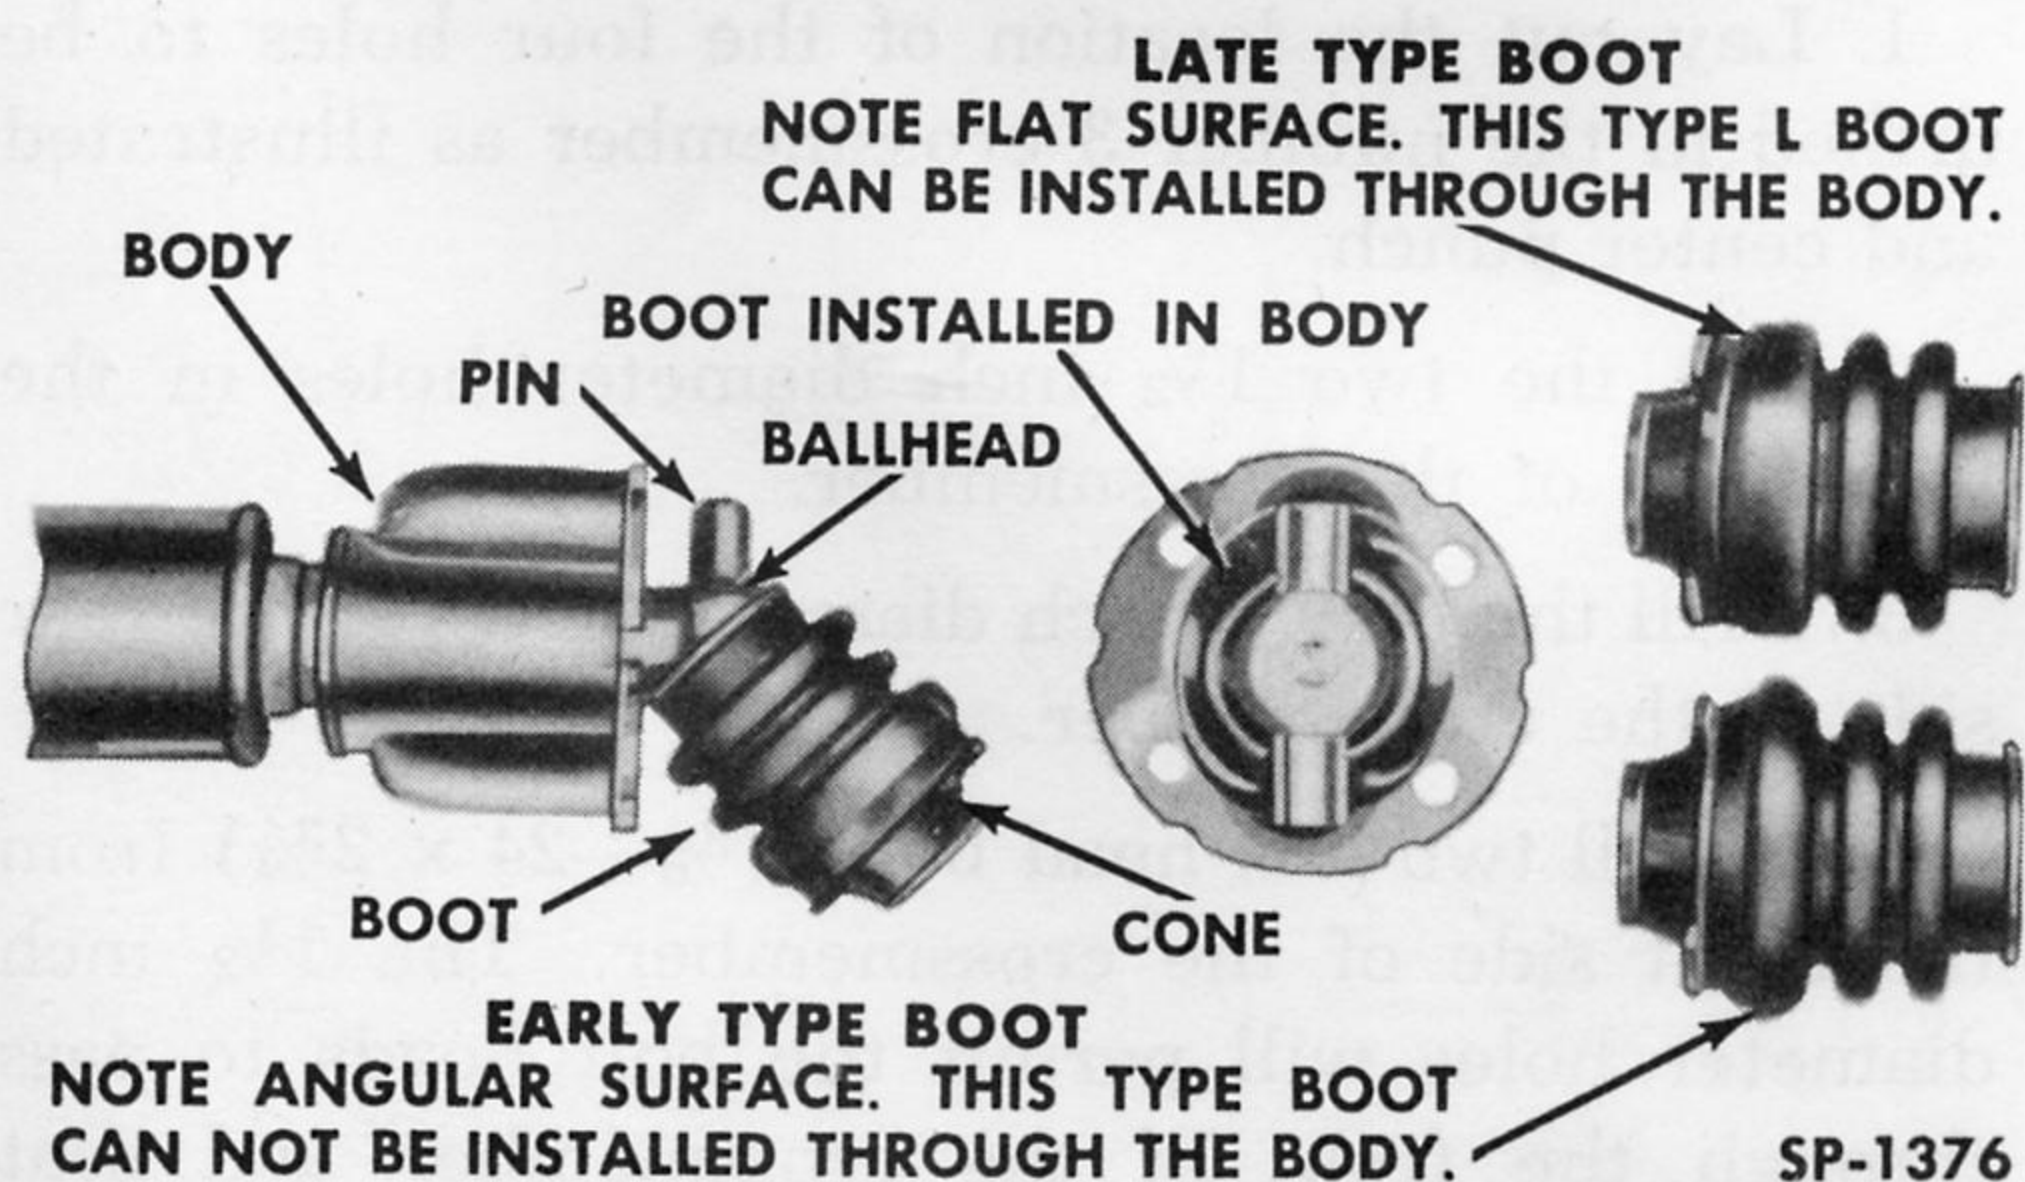

Fig. 233—Frazer Universal Joint Boot Installation
d. UNIVERSAL JOINT BOOT INSTALLATION (Fig. 233). The following is the procedure for installing the production type rubber universal joint and propeller shaft boot in the 1951 Frazer (Fig. 233) without removing the trunnion pin and joint body from the propeller shaft. This permits changing the boot without totally disassembling the universal joint. Do not confuse this operation with boot replacement using the leather split type boot that is for use when only the boot is to be replaced and no work is necessary on the universal joint.
6. Stretch the boot over the joint ball and pin (Fig. 233).
the end of the boot which protrudes through the end of the body and at the same time work the body back and forth until the entire boot has passed through the body. **NOTE: If the cone on the boot (Fig. 233) was inverted during the foregoing operation, pull it out to its normal position.**